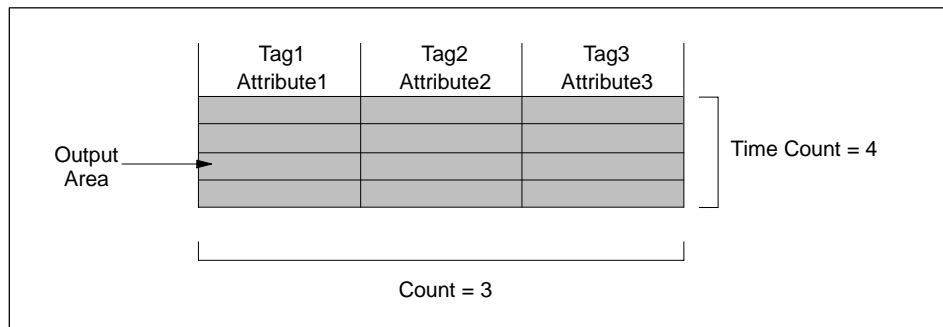

Figure 1-3 Relationship of Count to Time Count
- **Count** — enter an integer to represent the number of points for which values are being requested. Refer to Figure 1-3 for an example.
- **Time Count** — enter an integer to represent the number of time intervals. Refer to Figure 1-3 for an example.